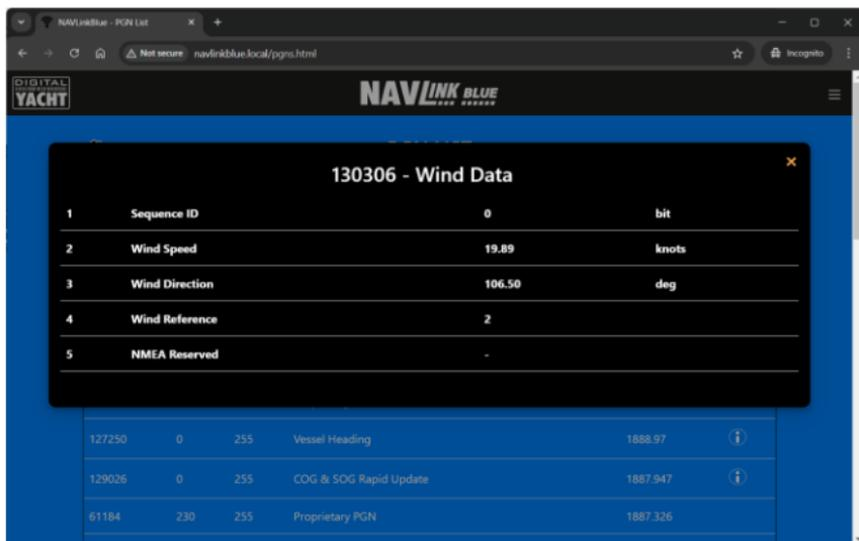

Figure 7
- If you wish to see the PGN's data values, click on the "Info" icon at the end of the PGN line and a new pop-up window will appear as seen in Fig 7.